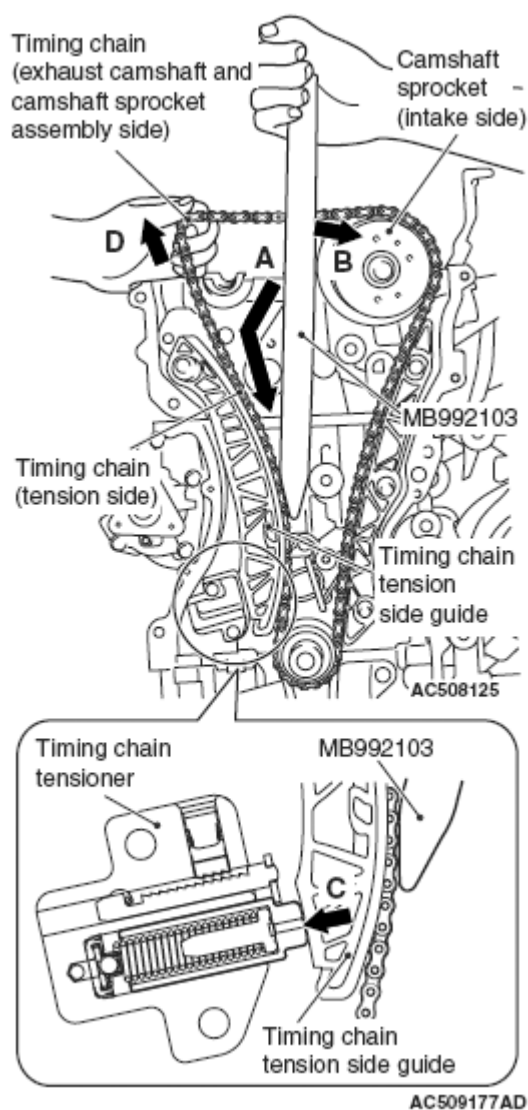

Fig. 47: Pressing Special Tool MB992103 Against Intake Side Camshaft Sprocket And Spread
3. With the timing chain tensioner unlocked, insert special tool MB992103 inside the timing chain case assembly along the tension side of the timing chain until the insertion guide line aligns with the upper surface of the timing chain case assembly (A in Fig. 47.)
4. With the special tool inserted up to the insertion guide line, press the special tool MB992103 against the intake side camshaft sprocket (B in **Fig. 47**) and spread and hold the timing chain tension side guide (C in **Fig. 47**.)
6. Pull up the camshaft and camshaft sprocket assembly (exhaust side) mounting area of the timing chain (D in **Fig. 47**) to provide allowance for easy installation of the camshaft and camshaft sprocket assembly (exhaust side) to the timing chain.